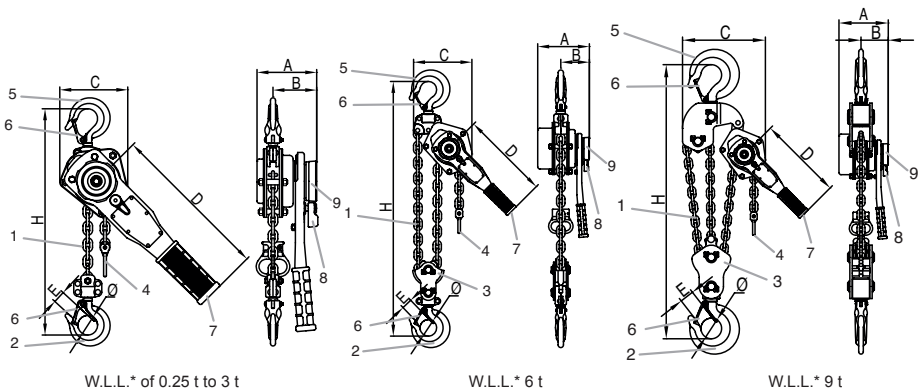

Fig. 1
The bravo™ hoist is supplied with a standard 1.50 m length of load chain (item 1, fig. 1). The load chain used with the 0.5 t to 3 t models is formed by a single strand with a lifting hook (item 2, fig. 1) at its end. The load chain used with the 6 t model is formed by two lifting
strands and a sheaved lifting hook (item 3, fig. 1).
The free end of the chain is equipped with a low limit stop (item 4, fig. 1).
1. Check that the bravo™ hoist is properly suspended by its suspension hook (item 5, fig. 1) and that the hook safety catch (item 6, fig. 1) is properly closed (see figs 2 and 3).
The bravo™ hoist is operated by means of an actuating handle (item 7, fig. 1) which is moved back and forth by the operator to lift or lower a load, pull a load, or apply tensioning.
2. Set the movement selector lever (item 8, fig. 1) to the neutral position "0".
3. With no load on the machine, turn the load wheel (item 9, fig. 1) anti-clockwise to open the brake; the chain is released.